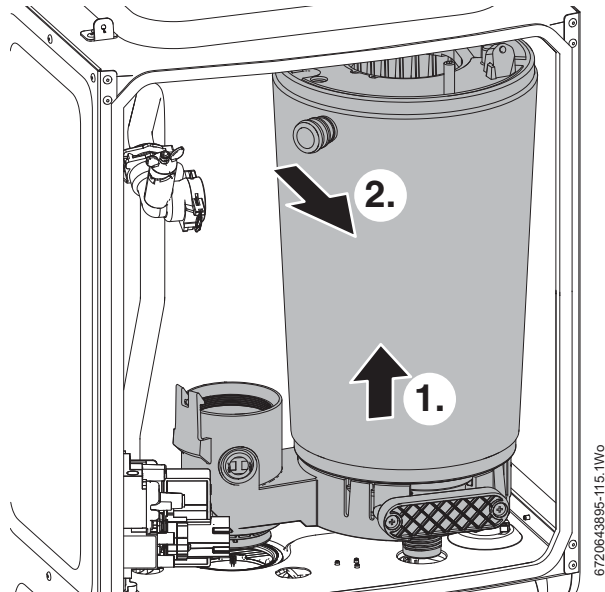

Fig. 88 Heat exchanger removal
1. Refer to figure 88 and lift the heat exchanger up to clear.